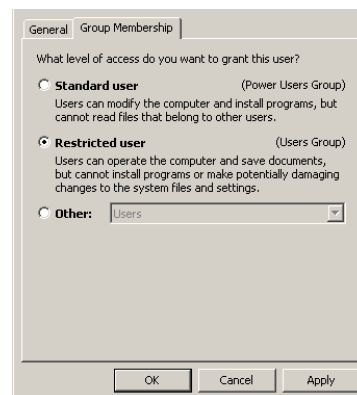

Figure 2-28 MGMTSERVER\srvacc Properties Dialog Box (Group Membership Tab)
2. Type the new user information in the *User name*, *Full name*, and *Description* fields, then click the *Group Membership* tab. The *MGMTSERVER\srvacc Properties* dialog box displays with the *Group Membership* tab selected (Figure 2-28).